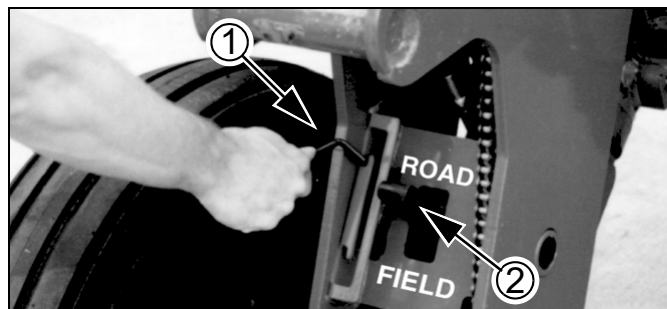
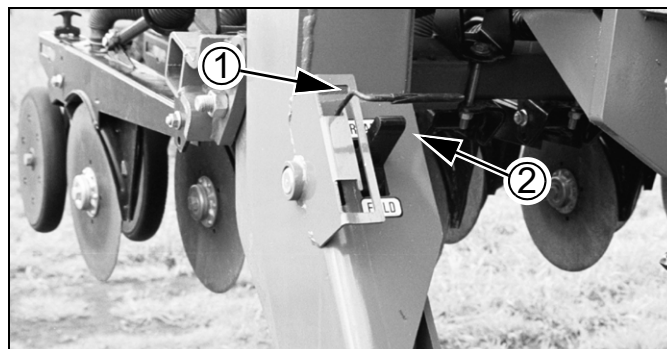

Figure 18
Figure 19
Refer to Figure 18 and Figure 19
Note: Opener transport lock handles ① move with openers up or down, but locks only engage if openers are raised completely or disengage if openers are lowered completely. There are 4 assemblies, one on each wing section near machine center (*Figure 19*), and one on each gauge wheel (*Figure 18*).
Refer to Figure 18